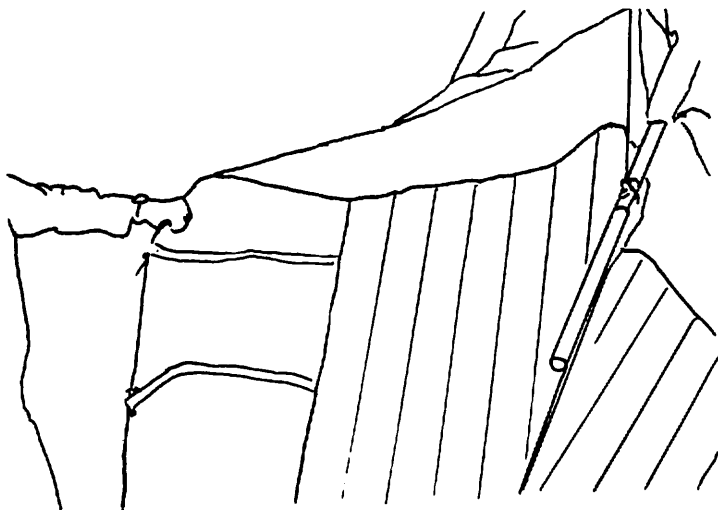

Fig 64
8) Remove the washout tips. Fold the wings in pulling the sail over the top of the leading edges. (Fig 64) If you meet resistance while folding the wings in, stop and check that the crossbar center section is not caught between the keel and front leading edge.